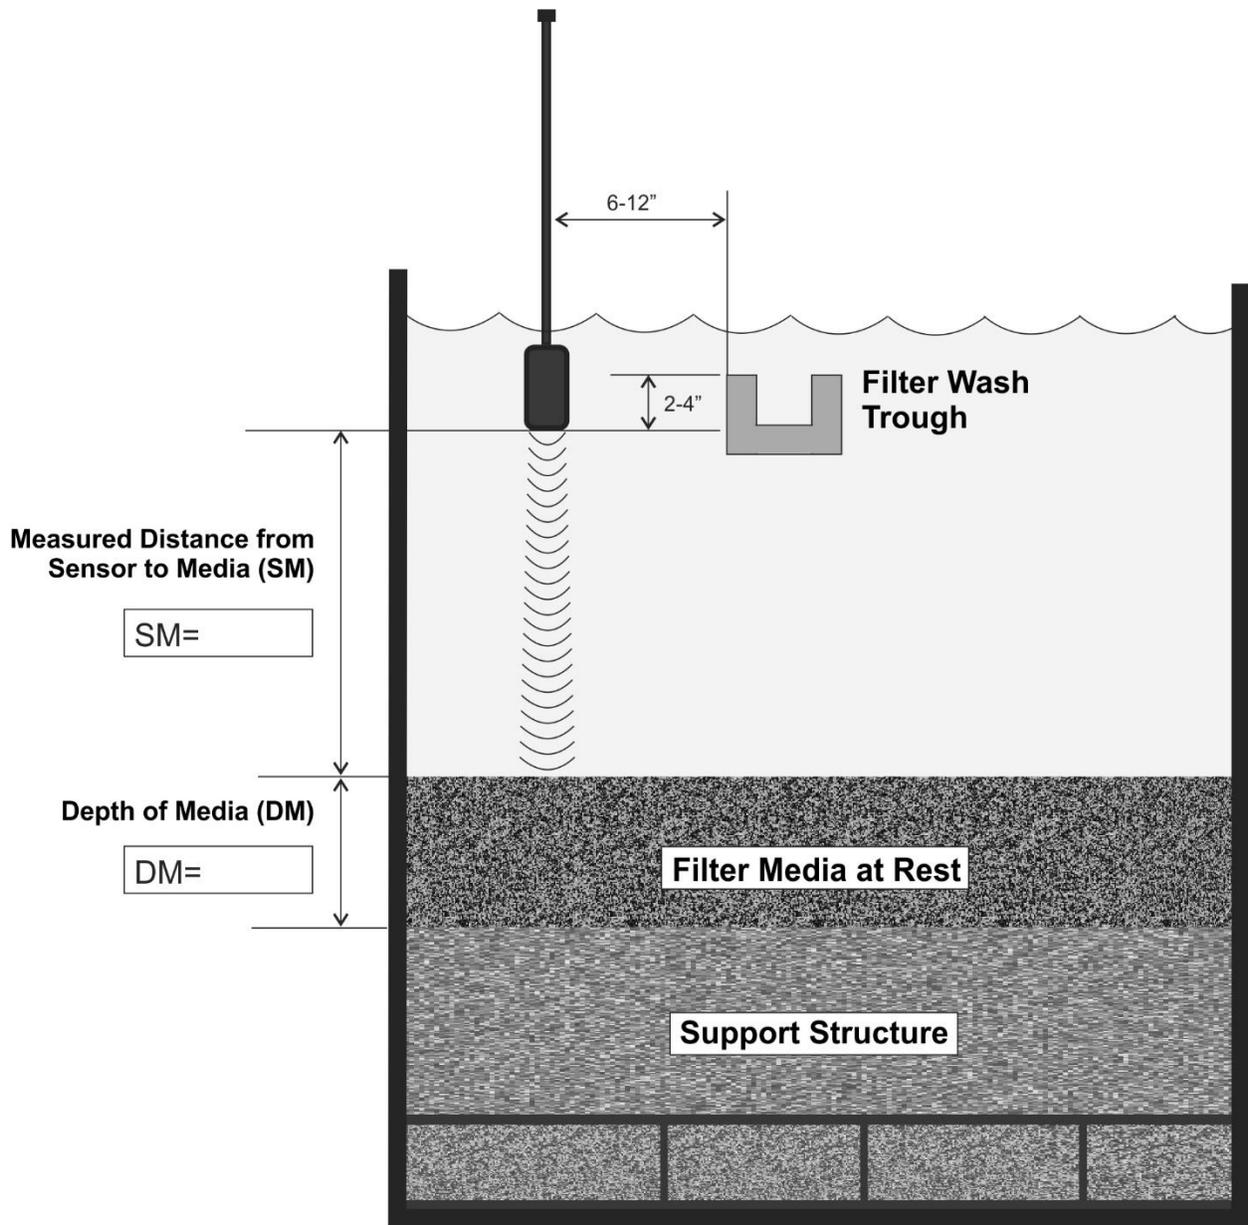

Figure 45: Installation Recommendations for Filter Applications
Two dimensions are needed to set up the EchoSmart unit for filter applications: the distance from the Sensor to the Media (SM), and the Depth of the expandable Media (DM). Installation recommendations and a guide to help determine correct input dimensions are found in Figure 45 below. SM should be measured after installation of the sensor. The setup parameters can then be implemented as follows:
*(The measured distance from the Sensor to the Media (SM) plus the Depth of the Media (DM)).*
(This locates the zero Level at the bottom of the expandable media. See Figure 45)
- 20mA Set Point:** Tank Depth (SM + DM, Figure 45)